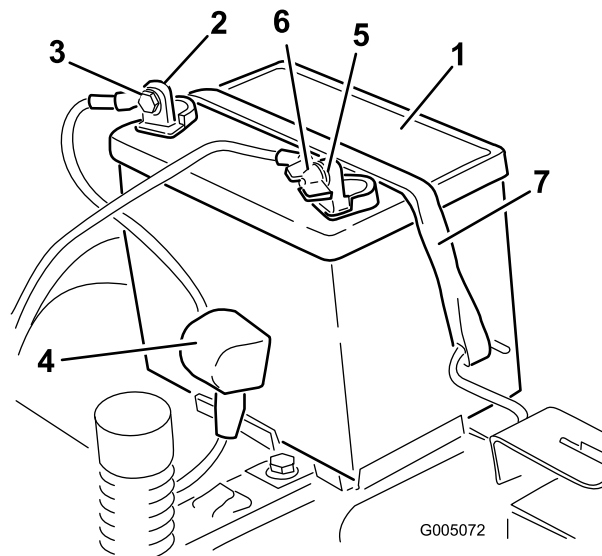

Figure 46
4. Disconnect the negative (black) ground cable from the battery post (Figure 46). Retain all fasteners.
5. Slide the rubber cover up the positive (red) cable. Disconnect the positive (red) cable from the battery post (Figure 46). Retain all fasteners.
6. Remove the battery hold-down (Figure 46) and lift the battery from the battery tray.
1. Position the battery in the tray (Figure 46).
5. Secure the battery with the hold-down (Figure 46).